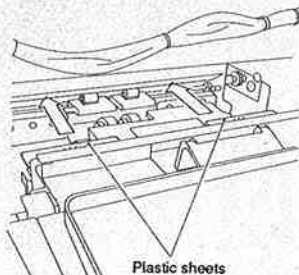

Figure 4-314
- i. Insert plastic sheets (multifeeder) as shown in Figure 4-314 when attaching the multifeeder to the copier.